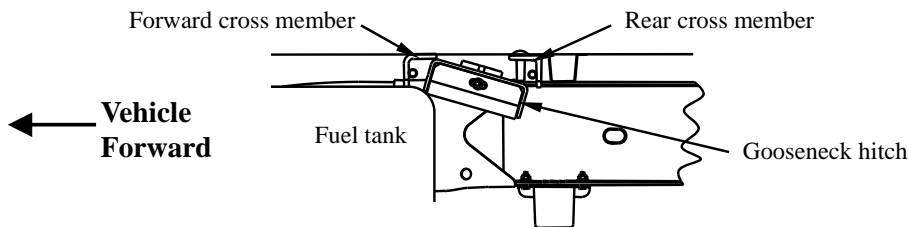

Figure 4
10. Rotate the front of the hitch over the gas tank (locking pin on the driver's side) and raise the rear of the hitch up, guiding the ends of the 5/8" carriage bolts in the rear rail through the slots in the top of the hitch (see Figure 4). Loosely fasten the back of the hitch to the rear cross member with 5/8" fasteners from the Hide-A-Goose fastener kit.